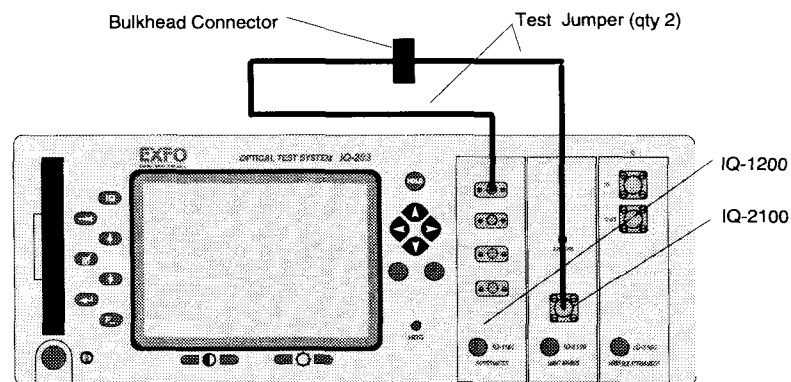

Figure 6-2. Setup for Taking a Reference Measurement
1. Using two appropriate test jumpers and a bulkhead adapter, connect as shown in Figure 6-2.